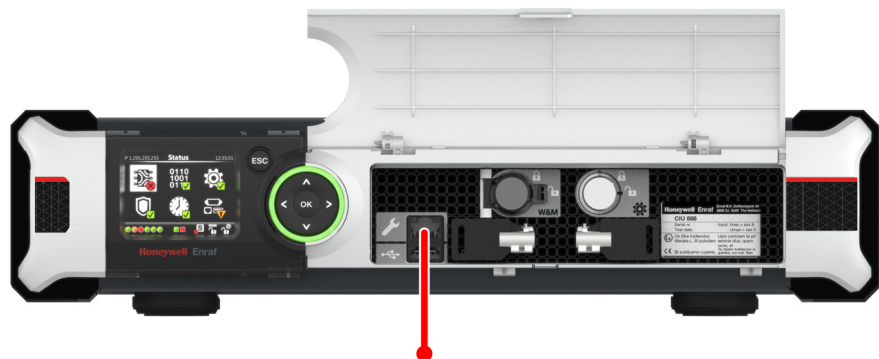

FIGURE 4-1
- A PC/laptop running the CIU 888 Service Tool must be connected to the Service port of the CIU 888 using a Cat. 5 Ethernet cable (patch or crossover). The Service port is located at the front of the CIU 888 (see FIGURE 4-1). See Chapter 3 for more information about the CIU 888 Service Tool.